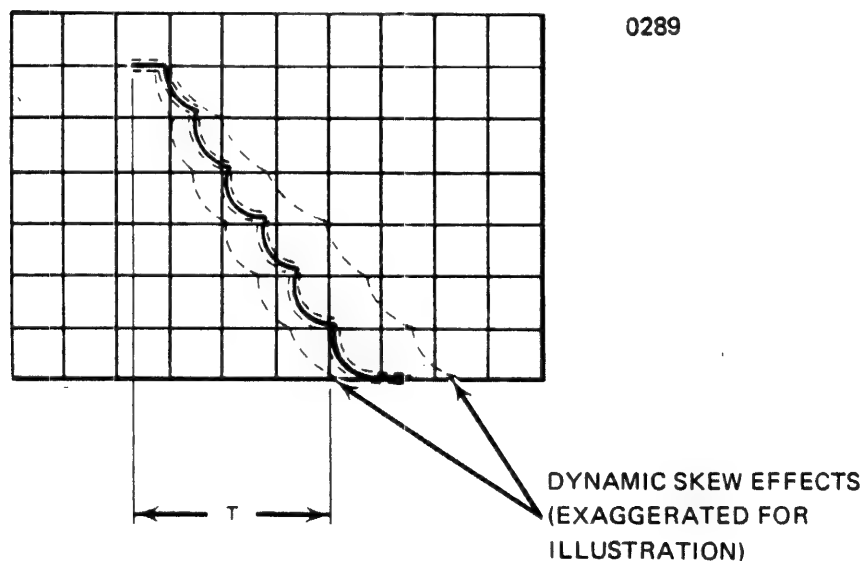

Figure 4-30. Staircase Waveform for Dual-Density Systems
- c. While writing continuous I's, observed waveform should resemble that shown in Figure 4-30. Time T should approximate results described in paragraph 4.4.2.4, step d and should not differ more than value established by the following equation: